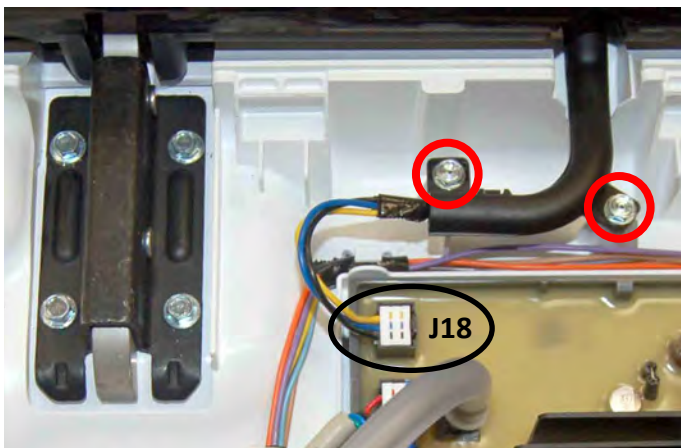

Figure 1
4. Disconnect the User Interface connector "J18" from the Main Control (see Figure 1).
5. Next, remove the two (2) 1/4" hex-head screws securing the User Interface harness to the top panel (locations circled in Figure 1).